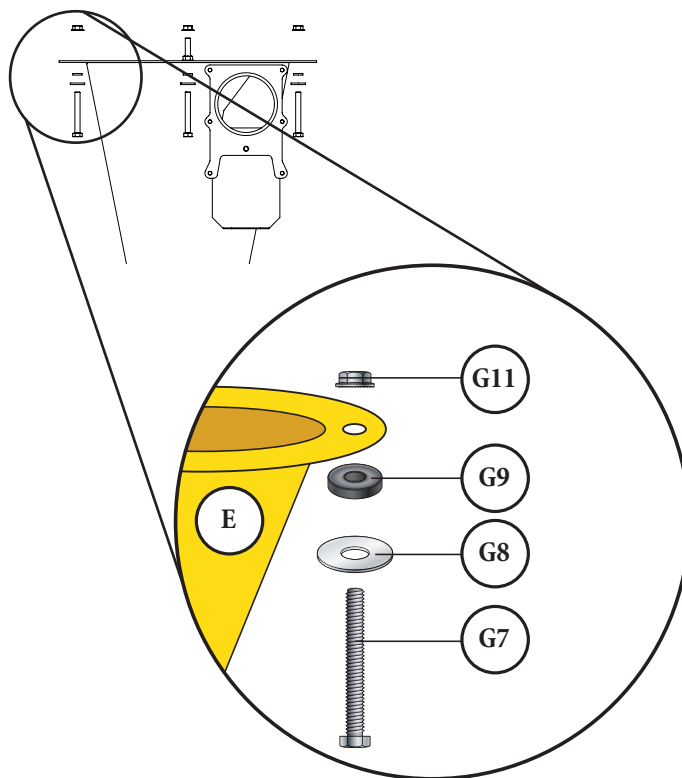

FIG. 13
Install the three remaining Hex Head Bolts (G7), Flat Washers (G8), Rubber Washers (G9), and Whiz-Lock Nuts (G11) to the three remaining holes in the Cyclone's (E) upper flange [FIG 13].